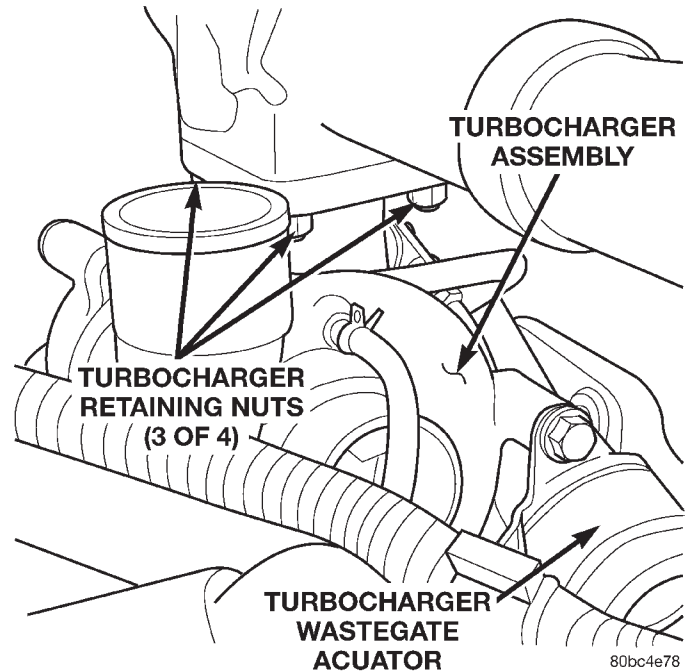

Fig. 41 Turbocharger Retaining Nuts
(5) Position the gasket and install the turbo on the exhaust manifold. Torque the nuts to 32 N·m (23 ft. lbs.) (Fig. 41).
(6) Remove the assembly from the vice and position on the exhaust manifold mounting studs.